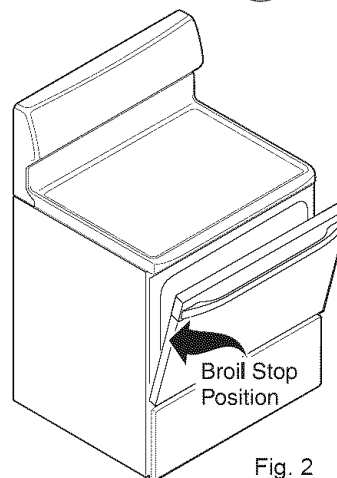

Fig. 2
6. Place the pan on the oven rack. **Open the oven door to the broil stop position** when broiling (See Fig 2).